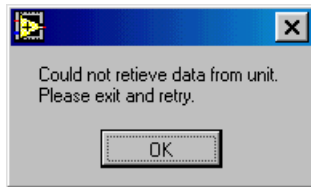

Figure 6-16. Could Not Retrieve TDEV Data Message Box
- **Graph** — This portion of the dialog box displays a graph of the retrieved TDEV data in a log-log graph style (*X-axis* = integration time in seconds, *Y-axis* = TDEV in nanoseconds). If there is not sufficient data to create the graph, the TDEV report dialog displays the message box (Figure 6-16):